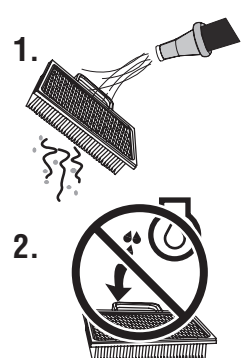

Figure 40. Air Filter Service
1. Figure 40. Wash the pre-cleaner in liquid detergent and water.
1. Figure 40. If stamped "Washable," the filter can be washed with warm water and mild soap.